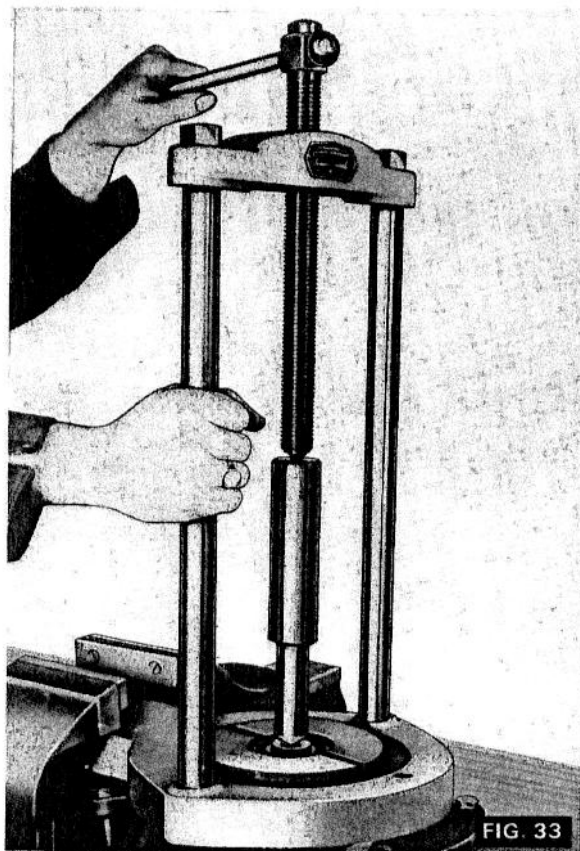

FIG. 33
2. (Fig. 33) Press the inner bearing cone (taper roller bearing) off the pinion using multi-purpose bearing remover/replacer MF 200 - 25 with tool MF 200 - 23.